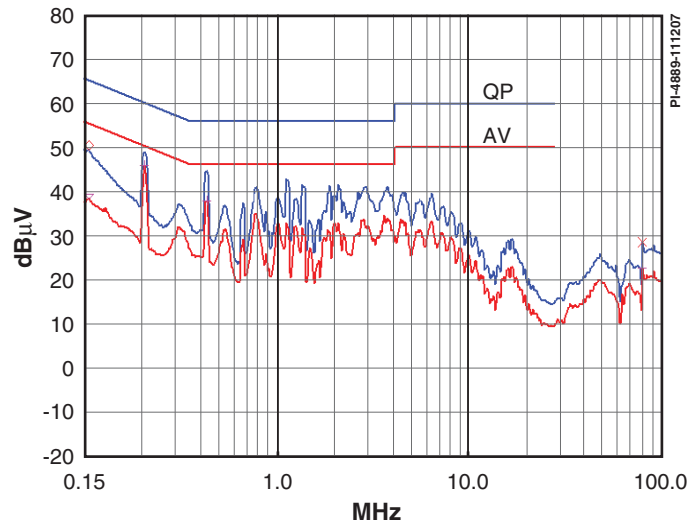

Figure 2. Conducted EMI at 230 VAC With Output Grounded (CISPR-22 Limit Lines Shown).
- Integrated frequency jittering, together with a low cost EMI filter, allows for CISPR-22/EN55022B conducted EMI compliance (see Figure 2)